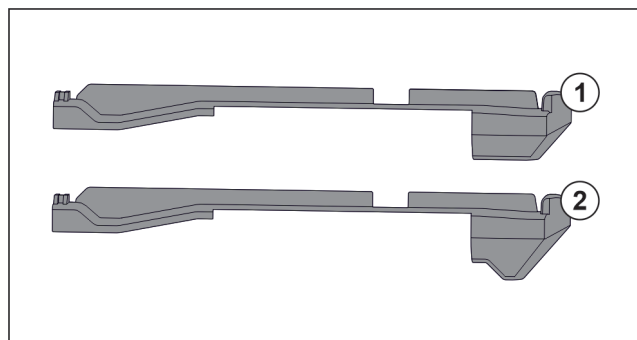

Fig. 126 Comparing attachments
There are two different attachments in the appliance. The attachment above the lowest drawer *Fig. 126 (2)* has a three-cornered edge. All other attachments *Fig. 126 (1)* have a straight edge.
- Fit attachment *Fig. 126 (2)* with the three-cornered edge above the lowest drawer.
- Fit attachment *Fig. 126 (1)* with straight edge in all other positions.